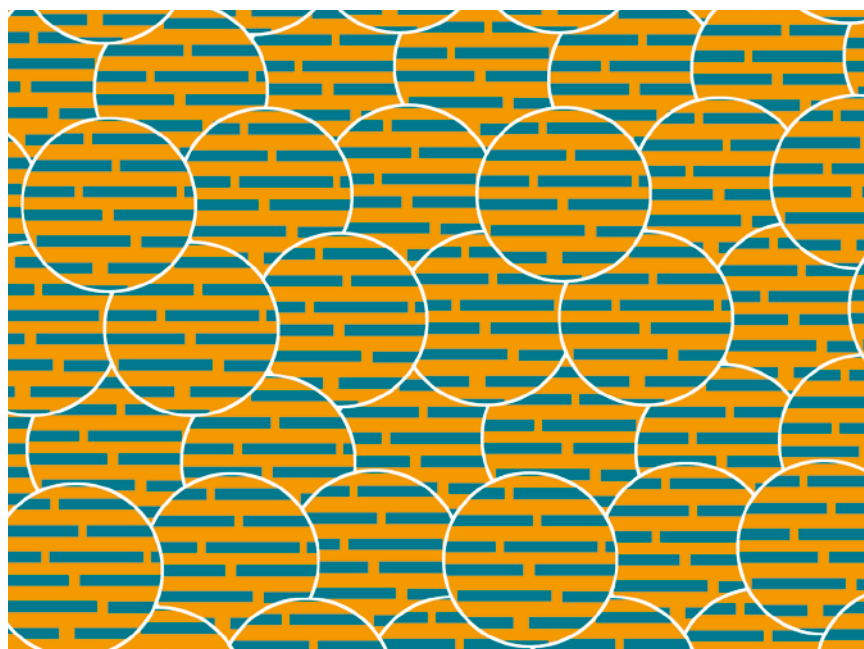

figure 8
The LAPONITE coating forms a continuous interlinked and overlapping film of electrically charged particles. This mechanism is not affected by changes in relative humidity (RH). (figure 8)